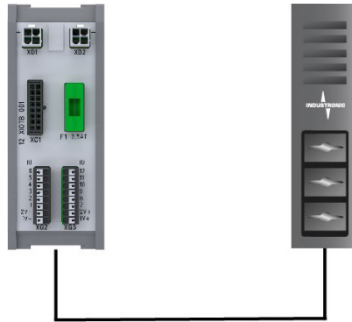

Fig. 6-10: Control inputs/outputs to XIOTB
2. Connect the incoming cables of the control inputs/outputs to terminals *XG2* and *XG3* of terminal block XIOTB (→ Fig. 6-10 and chapter 0, page 48).